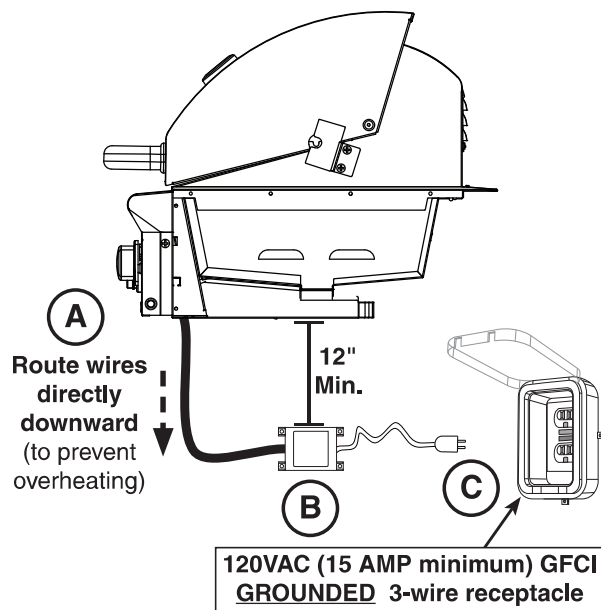

Fig. 23-1 Electrical installation
1. Route the wire harness extension below the control panel and directly downward. This will prevent overheating. **DO NOT** route the wire extension below the grill. See Fig. 23-1, A.
2. Mount the power supply to the inside of the enclosure using appropriate hardware for your enclosure. It **MUST** be located at least 12 inches below the bottom of the unit. See Fig. 23-1, B.
3. Connect the cord coming from the power supply to a **120VAC (15 AMP minimum) GFCI GROUNDED 3-wire receptacle** (see Fig. 23-1, C). The GFCI receptacle must be a WEATHER-PROOF IN-USE COVERED RECEPTACLE.